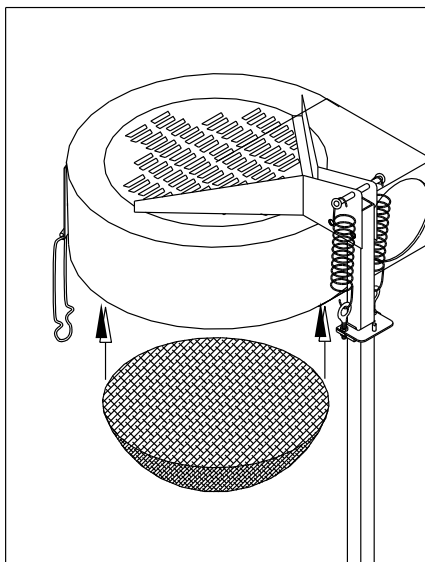
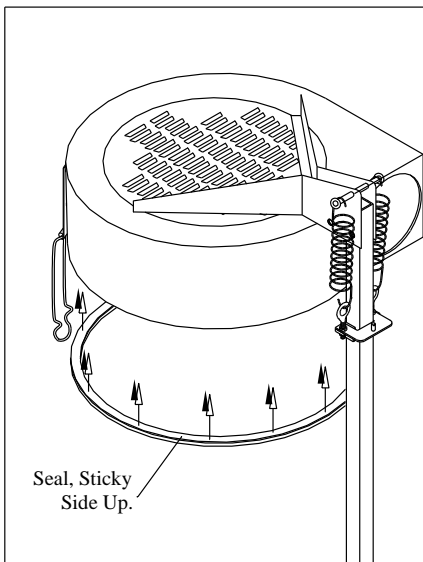

Fig. 7
Fig. 8
7. Fit filter (15) over lip on filter support (14). (Fig. 7) Apply seal as shown in (Fig. 8).